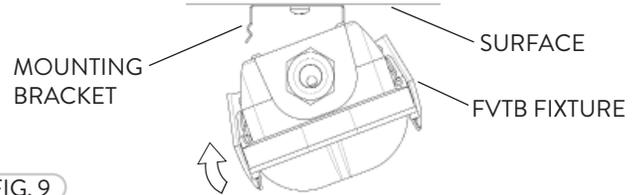
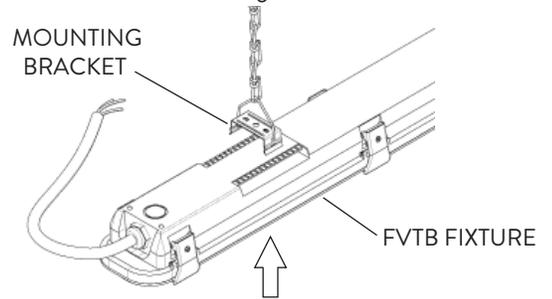

FIG. 9
FIG. 12
- 4 Lift the FVTB fixture to the Mounting Brackets to snap into place. Align the FVTB fixture to one side of Mounting Bracket, then lift and press the fixture onto the other side of Brackets (Fig. 9).
- 2 Lift the FVTB fixture up to the Mounting Brackets to snap into place (Fig. 12). Snap one side of FVTB fixture first, then press the fixture into other side of bracket. Refer to Fig. 9.